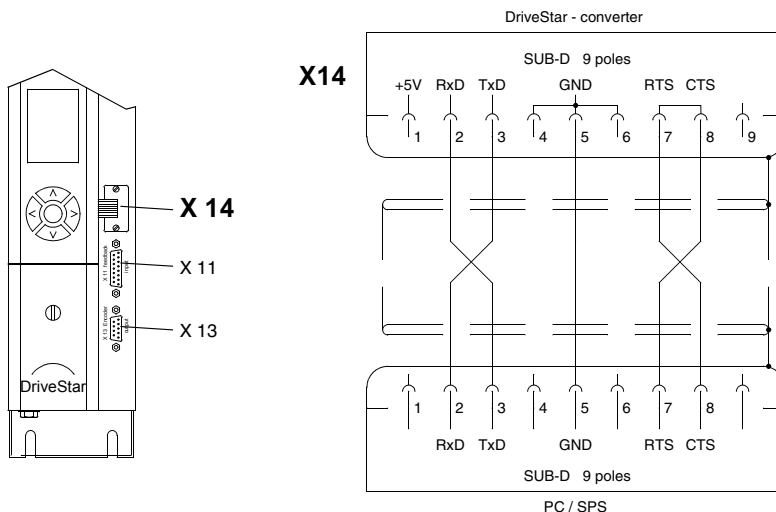

Fig. 6.20 B10-017 Connection serial interface RS 232
- X 14 RS 232, **D-DS\_1**, H-DS.1, (see Fig. 6.20, page 29)